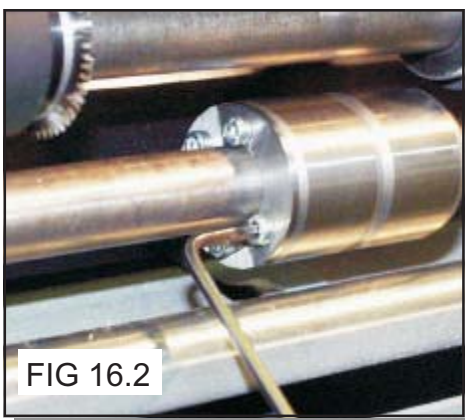

FIG 16.2
11. Mount the other anvil ensuring that they have matched on the drive hub. Secure the anvil to the hub ensuring not to over tighten grub screw as shown in fig 16.2.